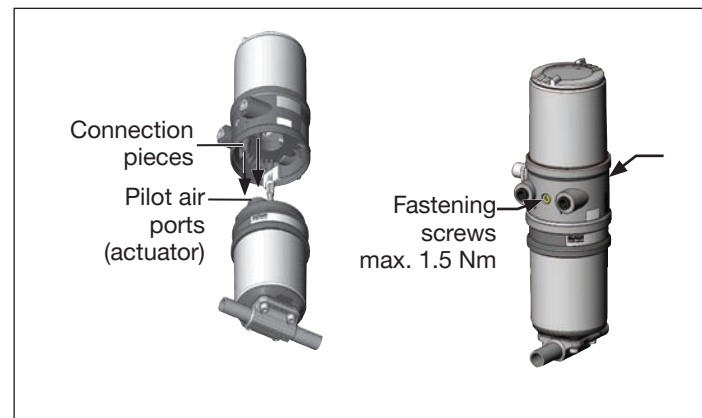

Fig. 7: Installation of control head, 21xx series
2. the connection pieces of the control head can be inserted into the pilot air ports of the actuator (see also “Fig. 7”).